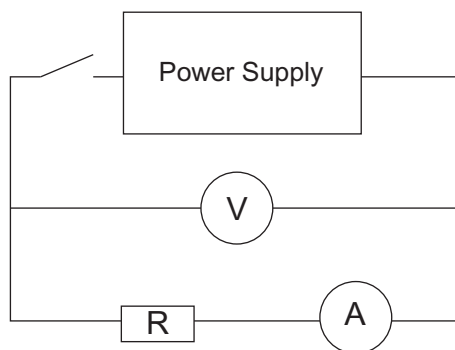

Fig. 3.1
- 3 In this experiment you will take measurements of current and potential difference to enable you to work out the internal resistance of a power supply. You are provided with the circuit shown in **Fig. 3.1**. The resistor R in the circuit initially has a value of $10\ \Omega$.